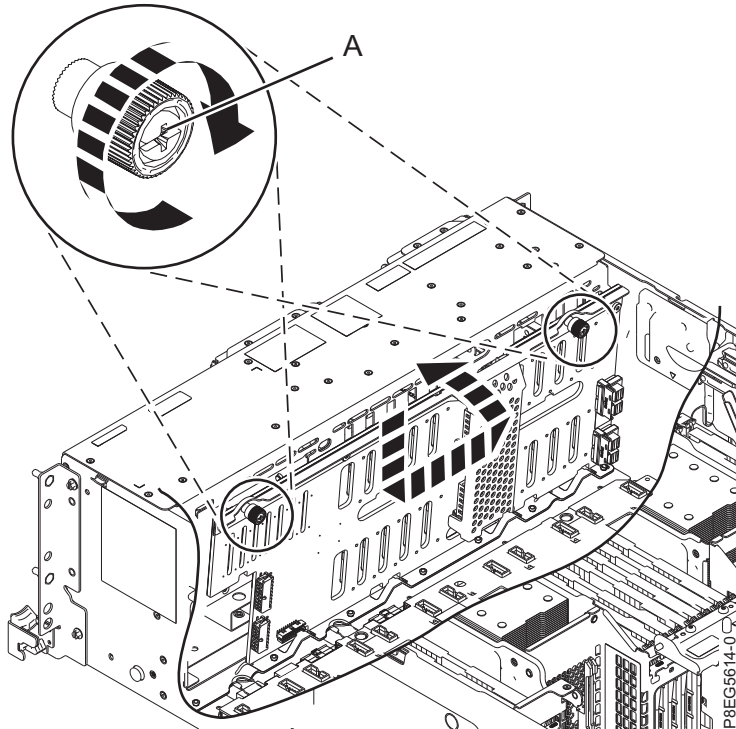

Figure 17. Replacing the disk drive backplane
3. Using the ledge at the top of the disk drive backplane and facing towards the front of the system, replace the backplane. Tilt it towards the rear and lower it down into the chassis. Align the backplane cutouts with the tabs in the chassis to insert it into the system. Slide the backplane to the side as is shown in Figure 17 on page 19.
4. Carefully tighten the captive thumbscrews (A) until each one is secured to the system's chassis.